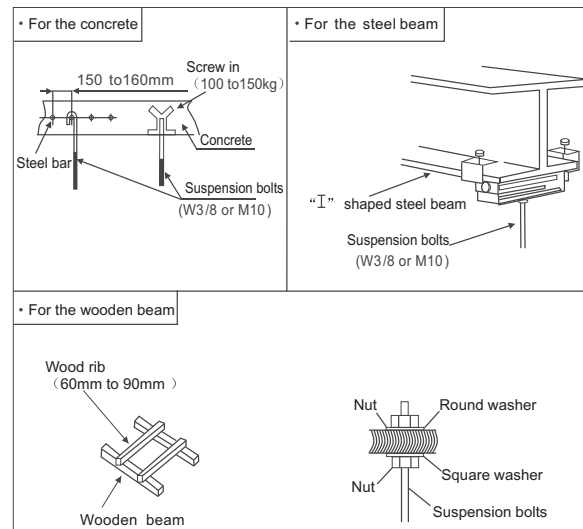

Fig.3.3.1 Fixing the suspension bolts
(1) Consider the pipe direction, wiring and maintenance carefully, and choose the proper direction and location for installation.
(2) Install the suspension bolts as shown in Fig 3.3.1 below.